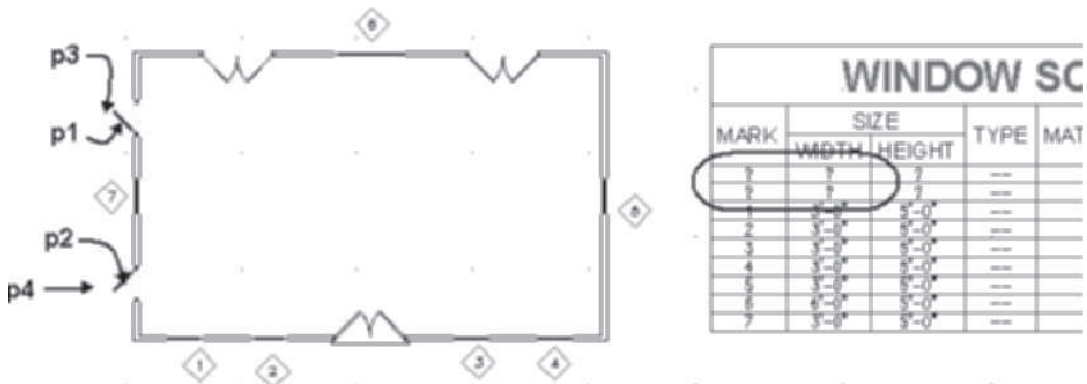

FIGURE 11.58 Casement windows added to floor plan
8. Choose the Home tab. Click the Tools command of the Build panel. Choose the Windows palette. Select the **Casement** tool from the **Windows** palette. Edit the Width = **3' [900]**, Height = **4'-0" [1200]**, Measure to = **Outside of Frame**, Swing angle = **45**, Position along wall = **Offset**, Automatic offset = **3'-0" [900]**, Vertical alignment = **Head**, and Head height = **6'-8" [2050]**. Add two casement windows on the left wall of the building as shown at **p1** and **p2** in Figure 11.58.
Select object to tag: (Select window at p1 as shown in Figure 11.58.)
Specify location of tag <Centered>: (Select a point near p3 as shown in Figure 11.58 to locate the tag.)
Select object to tag [Multiple]: (Select window at p2 as shown in Figure 11.58.)
Specify location of tag <Centered>: (Select a point near p4 as shown in Figure 11.58.)